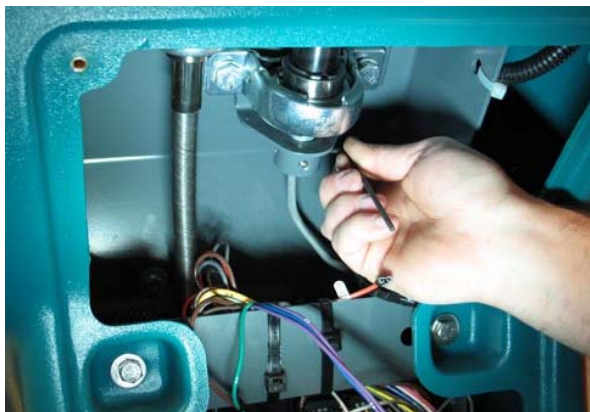

FIG. 6
7. Loosen the set screws from the bracket inside the steering weldment. (Fig. 6)
8. Disconnect the main wire harness from the steering touch panel assembly. (Fig. 6 / Fig. 7)